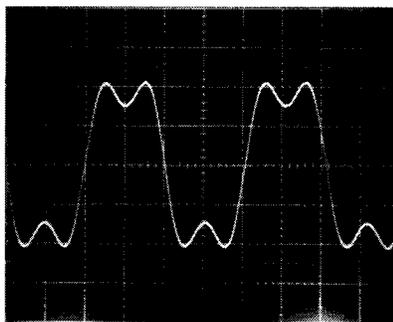

Fig. E-4: 5kHz OVERDRIVEN FCS OUTPUT
4) Increase the oscillator output 4dB. Substantial clipping should occur. Now sweep the oscillator frequency upward, and verify that the peak level of the output waveform never exceeds the "flat-top" level of the 100Hz clipped sine wave by more than 0.7dB, and that this 0.7dB peak occurs at approximately 4.4kHz. At this frequency, the waveform should resemble a filtered square wave with two equal cycles of ringing on the top and bottom of the wave (Fig. E-4). If substantially more than 0.7dB overshoot occurs, particularly if the ringing is not symmetrical, then suspect problems in the filters or phase-shift networks associated with the FCS circuit.